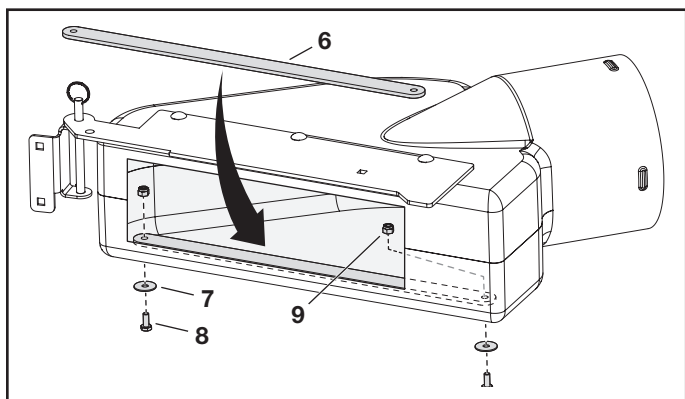

FIGURE 4
STEP 4: (SEE FIGURE 4)
- Place adapter strap (6) inside deck adapter as shown. Mark and drill holes. Attach using two 1/4" bolts (8), washers (7), and 1/4" nuts (9).